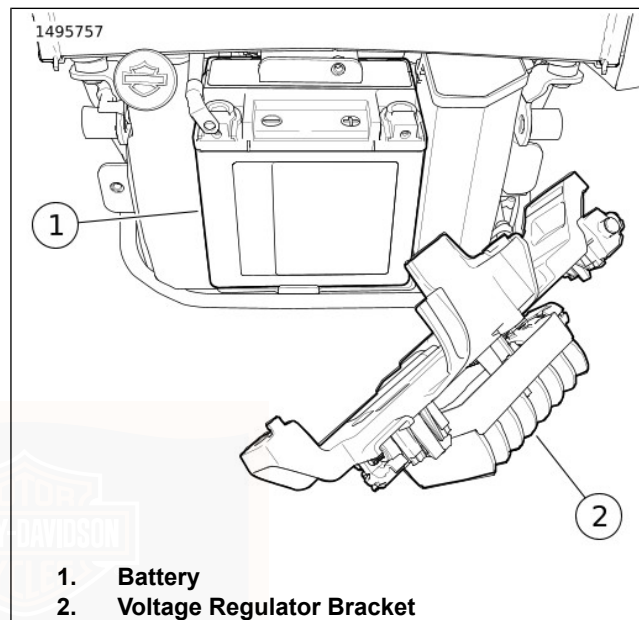

Figure 80. Voltage Regulator Bracket
6. Figure 80 Position voltage regulator bracket (2) out of way.
7. Remove battery (1).